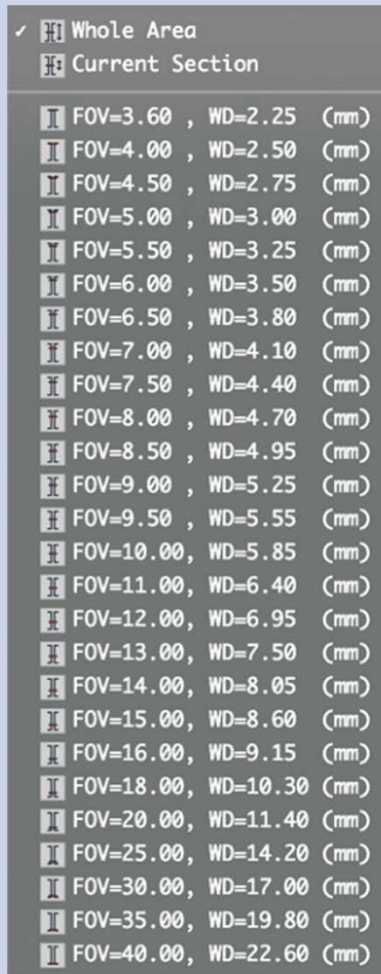
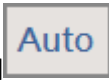

Figure 3-7 4X FOV menu
Fig 3-8 UM22 FOV menu
- (2) Field of View (FOV) menu : Figure 3-7 and Figure 3-8 show the FOV (field of view) and WD (working distance) options of 4X and 10X respectively. According to different focus